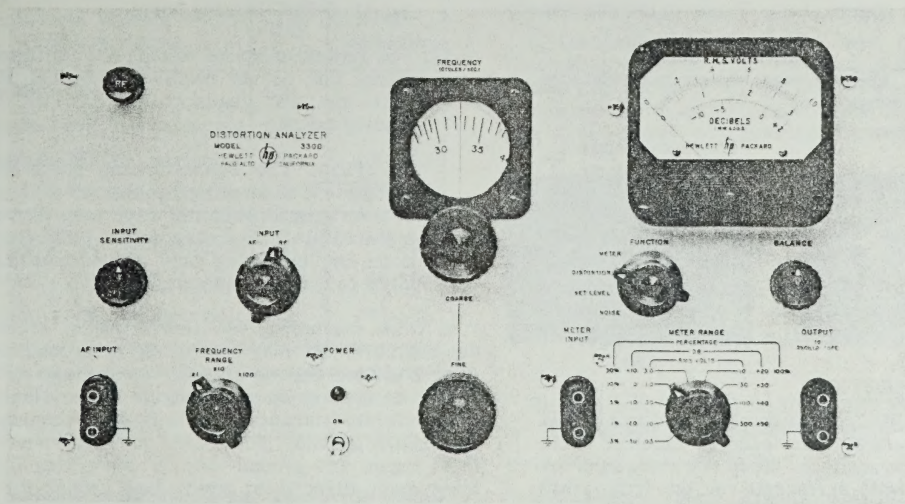

Figure 2-1. Front-Panel Controls, Model 330D
2-4. The functions of the controls and indicators are described below. The controls and indicators are shown in Figures 2-1 and 2-2.
(1) RF control (figure 2-1). Tunes to the carrier frequency.